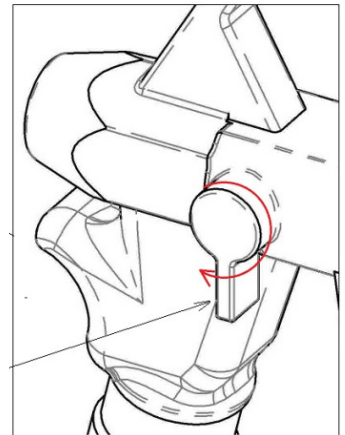

Fig. 1
- Engage the safety latch of spray gun. Rotate the latch clockwise as shown (Refer Fig. 1).